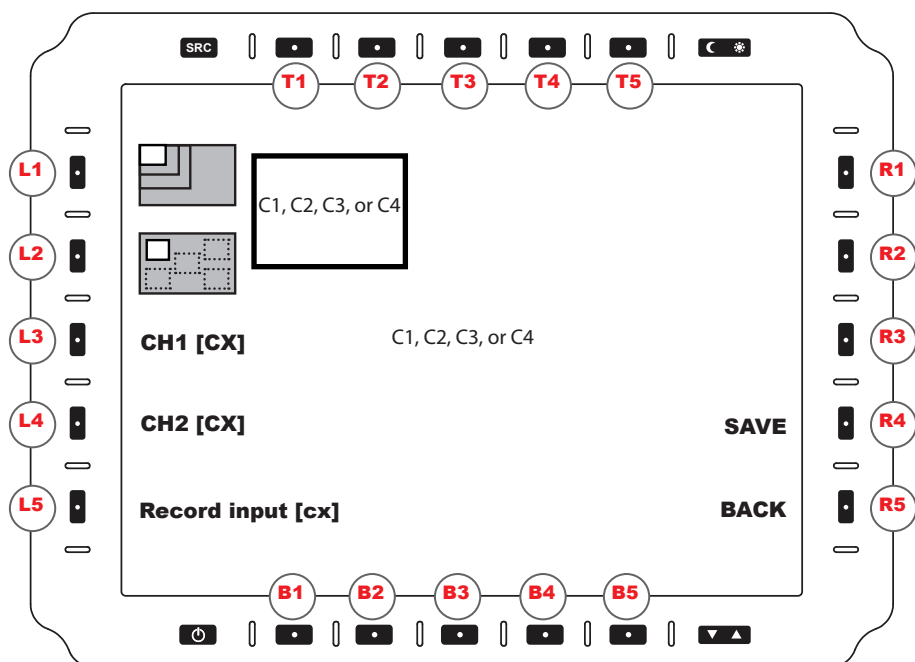
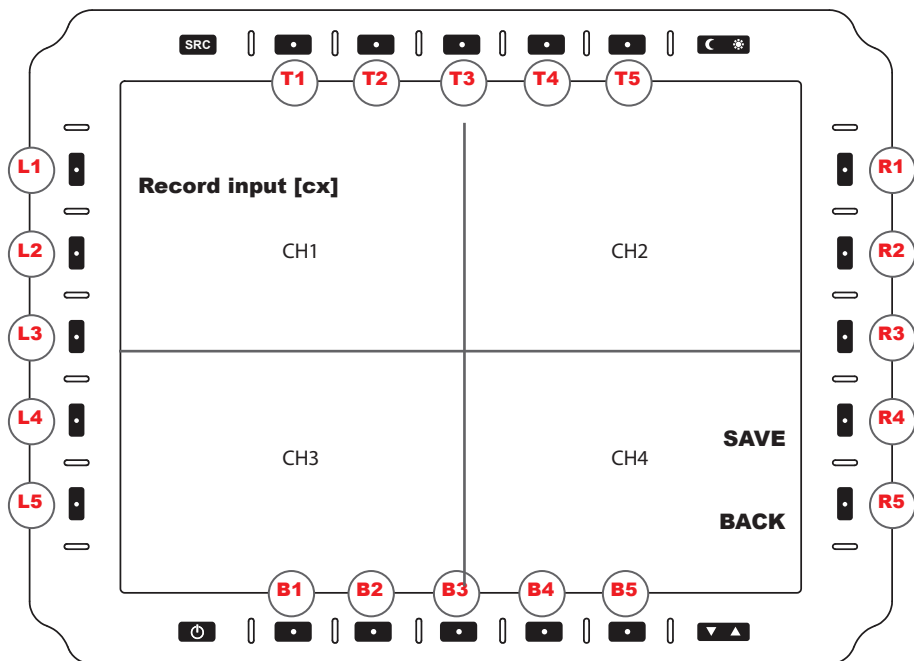
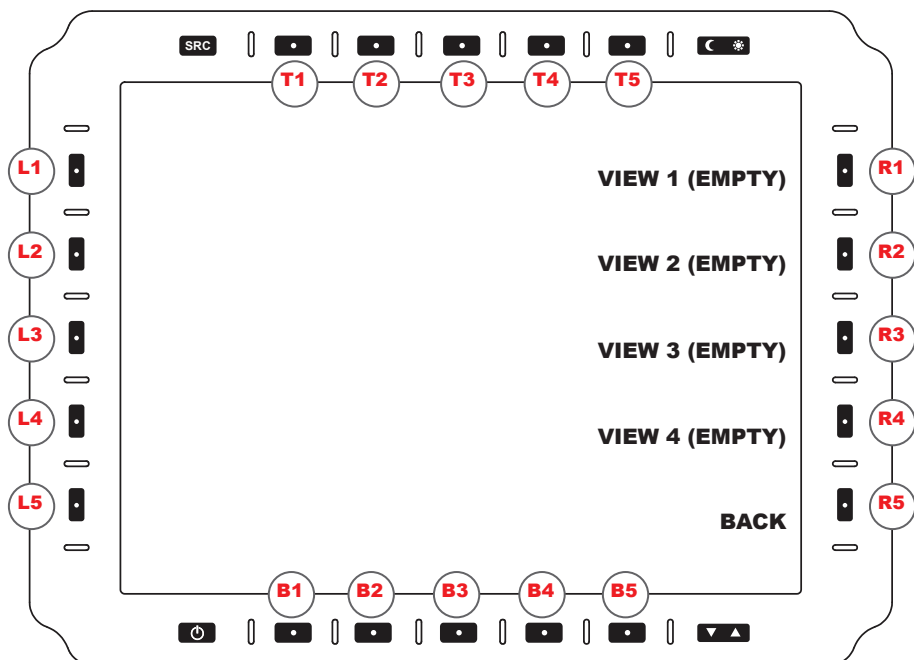
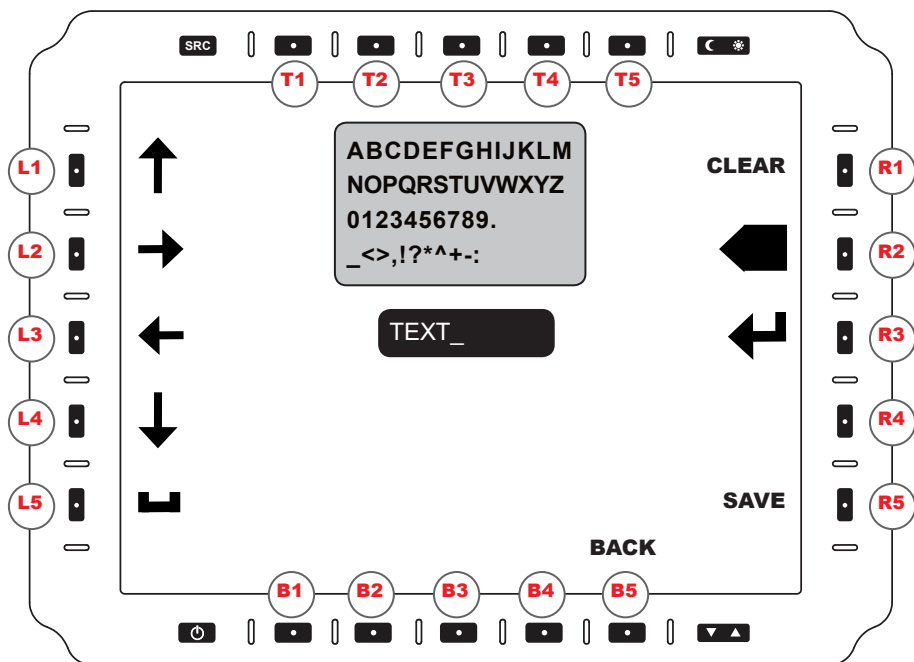

Figure 21. Pip options MENU
Figure 23. QUAD OPTIONS MENU
Figure 24. SAVE VIEW MENU
Figure 25. VIEW NAME ENTRY MENU
To enter the submenu Picture-In-Picture (PIP) Options (Figure 21), select PIP (R2) from View Mode Menu (Figure 12). User determines Video feed assigned to PIP view setting. A highlight border draws around the recorded feed.
SAVE (R4). Opens Save View Menu (Figure 24).
The Quad Options Menu allows for up to (4) Video Input Sources to be viewed (Figure 23). This submenu is accessed from (R4) in View Mode Menu (Figure 12). If a Video feed is unavailable, that quadrant should appear black. A highlight border draws around the recorded feed.
Use the Save View Menu (Figure 24) to save PIP (Figure 21), POP (Figure 22), or QUAD (Figure 23) configurations for various views. Select entry using R (Right) softkeys. User is directed to Name Entry Menu (Figure 25) to name view configurations.
VIEW 1 (R1). Saves the assigned PIP/POP/QUAD View 1 entry. Key press opens View Name Entry Menu to name the view (Figure 25); new view name replaces 'Empty'.
VIEW 2 (R2). Saves the assigned PIP/POP/QUAD View 2 entry. Key press opens View Name Entry Menu to name the view (Figure 25); new view name replaces 'Empty'.
VIEW 3 (R3). Saves the assigned PIP/POP/QUAD View 3 entry. Key press opens View Name Entry Menu to name the view (Figure 25); new view name replaces 'Empty'.
VIEW 4 (R4). Saves the assigned PIP/POP/QUAD View 4 entry. Key press opens View Name Entry Menu to name the view (Figure 25); new view name replaces 'Empty'.
In the submenu View Name Entry (Figure 25), User may name the Save View previously created. (Figure 24). Access to this screen is through the Save View Menu. Use the Left and Right softkeys to navigate. Text assigned will appear in the TEXT field (black) shown in the above screen capture.
BACK (B5). Returns to Save View Menu (Figure 24).